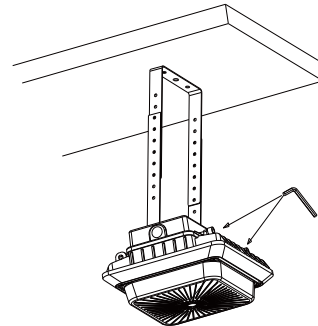

Figure 3-11
11. Lock the two cap screws, the product is installed. Figure 3-11